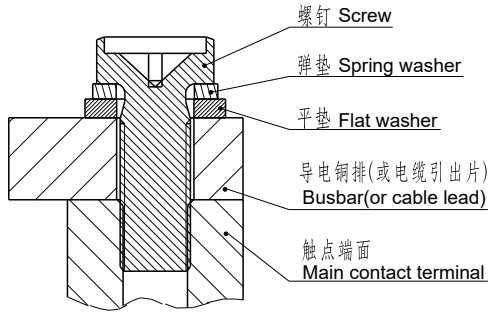

图1(Fig1)
- 9.当产品使用1个及多个导电铜排连接时，请确保导电铜排与触点端面紧密贴合（多个铜排需确保大电流的导电铜排最贴近触点端面，小电流的导电铜排其次），然后是平垫圈、弹簧垫圈、螺钉。不正确的连接顺序可能造成严重过热，参考下图1：
When the product is connected with one or more conductive copper bars, please ensure that the conductive busbars closely fit the contact terminal surface (The conductive copper bars with high current must be closest to the contact terminal surface if there are multiple copper bars and then conductive busbars with low current), followed by flat washers, spring washers and screws.Incorrect connection sequence perhaps give rise to severe overheating. Refer to Figure 1 as follows: